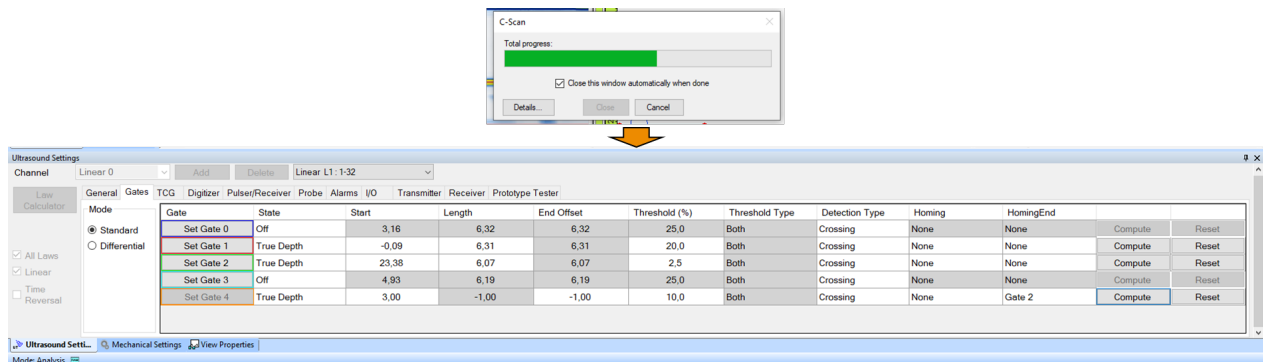

Figure 15: Homing End gate parameters are applied once the progress bar gets completed
- Once the user modifies a parameter of the Homing End Gate, its font switches to the **bold format** which means that the entered values are not yet applied. As soon as the Compute button is pressed for the Homing End Gate, the entered values are applied and their font switches back to the normal format. Figure 15 shows the Gates grid once the entered gate parameters are computed and applied.